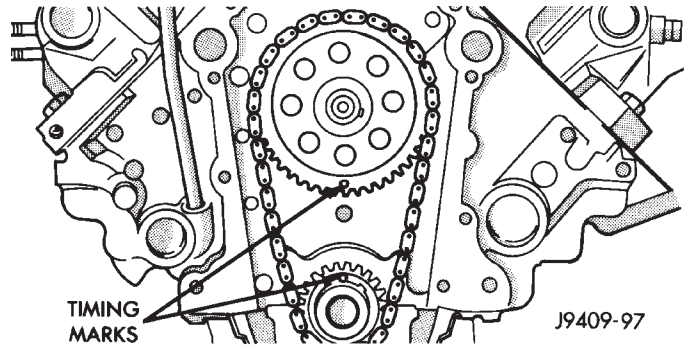

Fig. 30 Alignment of Timing Marks
(3) Hold tool in position with a distributor lock-plate bolt. This tool will restrict camshaft from being pushed in too far and prevent knocking out the welch plug in rear of cylinder block. **Tool should remain installed until the camshaft and crankshaft sprockets and timing chain have been installed.**
(4) Install camshaft thrust plate and chain oil tab. **Make sure tang enters lower right hole in thrust plate.** Tighten bolts to 24 N·m (210 in. lbs.) torque. Top edge of tab should be flat against thrust plate in order to catch oil for chain lubrication.
(5) Place both camshaft sprocket and crankshaft sprocket on the bench with timing marks on exact imaginary center line through both camshaft and crankshaft bores.
(6) Place timing chain around both sprockets.
(7) Turn crankshaft and camshaft to line up with keyway location in crankshaft sprocket and in camshaft sprocket.
(8) Lift sprockets and chain (keep sprockets tight against the chain in position as described).
(9) Slide both sprockets evenly over their respective shafts and use a straightedge to check alignment of timing marks (Fig. 30).